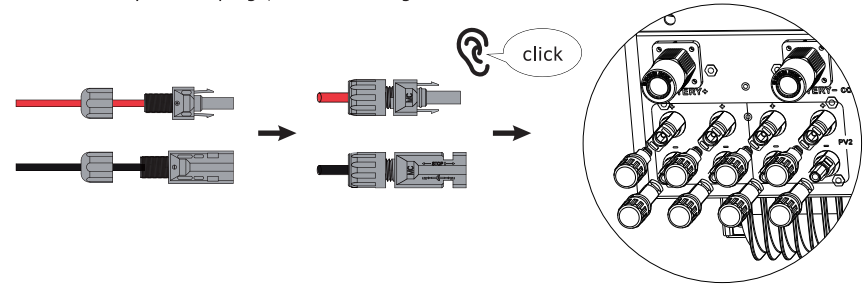

Figure 4.1-4 The PV plug is connected to the inverter
**Step4.** Screw the cap on and plug it onto inverter side. There will be a click sound if connectors are inserted correctly into PV plugs,as shown in Figure 4.1-4.